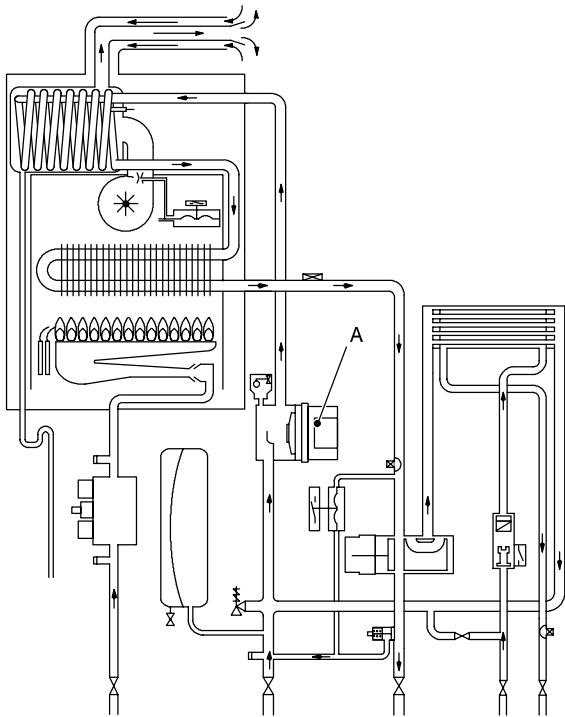
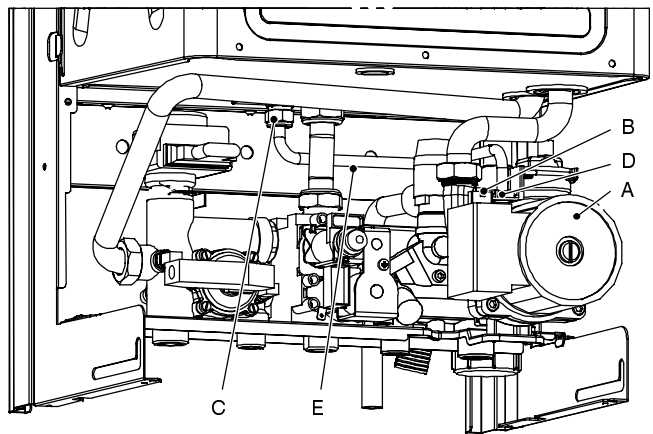

Fig. 18
Fig. 19
The pump A in Fig. 18 and Fig. 19 has the function of making the water in the main circuit circulate through the main heat exchanger, the condensing heat exchanger and therefore through the c.h. system (during the c.h. function) or through the secondary heat exchanger (during the d.h.w. function).
- 4 Disconnect the connector B (Fig. 19).